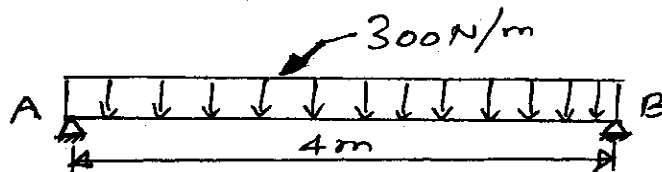

Fig. Q3
- 3 Construct the shear force and bending moment diagrams for the following simply supported beam with uniformly distributed load system shown in Fig.Q3. [10]